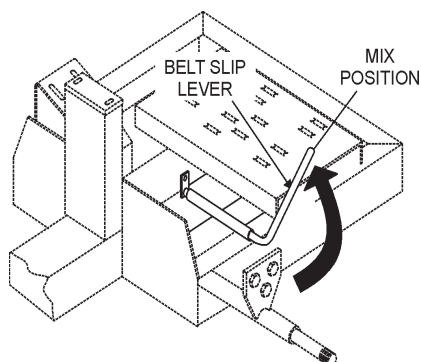

Figure 21. Belt Slip Lever (Mix Position)
- Place the belt slip lever (Figure 21) in the **mix** position. This will tilt the engine placing tension on the V-belts enabling the shaft to rotate.
1. Place the **belt slip lever** in the **start/stop** position (Figure 21).